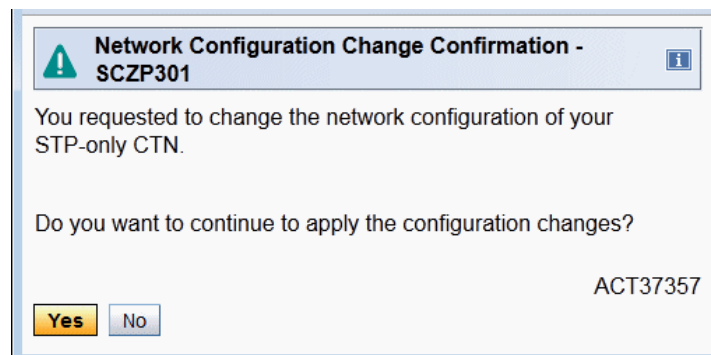

Figure 4-16 Configuration change confirmation - ACT37357
5. Select **Yes** on the configuration change confirmation panel (Figure 4-16).